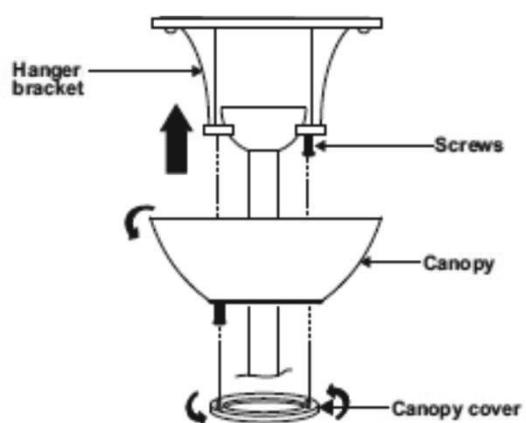

Figure 13
5. Slide the canopy up to the hanger bracket and place the key hole on the canopy cover over the screw on the hanger bracket, Turn the canopy until it locks in place at the narrow section of the key holes. Note: adjust the canopy screws as necessary until the canopy and canopy cover are snug. (Fig.13)